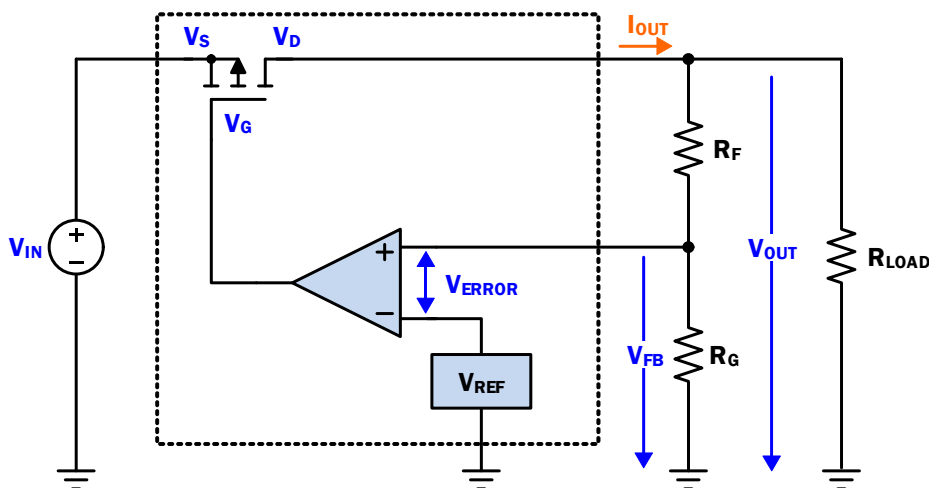

Figure 136. Simple PMOS LDO Regulator Block Diagram
- Power-Good (PG) indication
Like the majority of LDOs with a PMOS pass transistor, the RAA214020 DC output voltage (V_{OUT}) regulation can be modeled with a voltage reference (V_{REF}), PMOS pass-transistor, error amplifier and feedback (FB) resistors as shown in Figure 136.